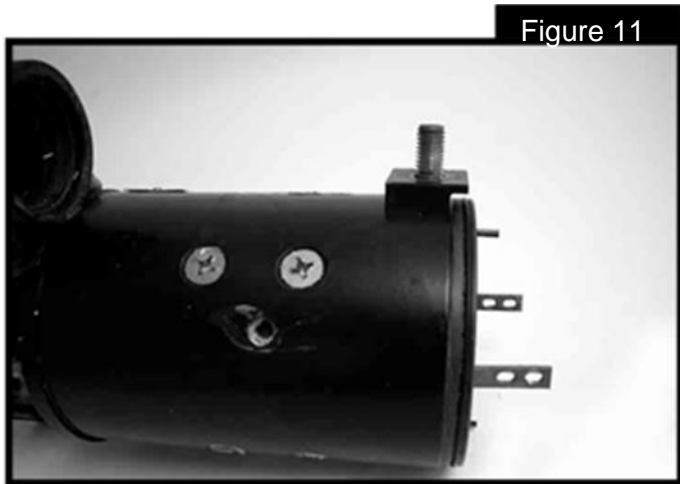

Figure 11
3. Slide square insulator down onto the field stud so the radius side rests against the field ring.(figure 11)